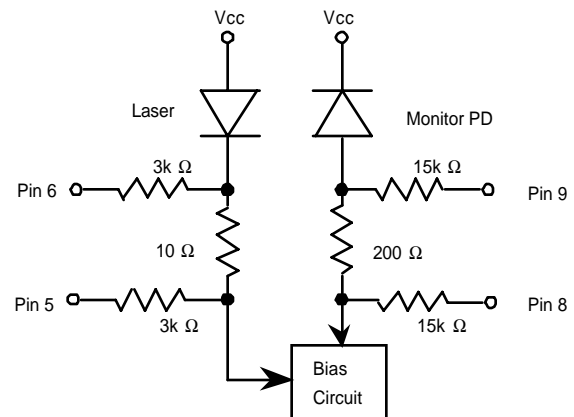

Figure 3 Monitor Circuit Schematic Diagram
8. The Laser Bias and Rear Facet Monitor currents are calculated as ratios of the corresponding voltages to their current-sensing resistors, 10Ω and 200Ω, respectively (See Figure 3). Upon measuring or utilizing these values, please use a device whose impedance is high enough (>1MΩ) compared with those resistors.